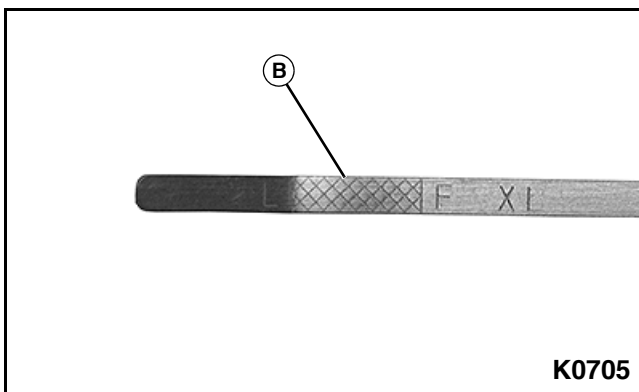

Figure 5-2
5. Pull out the dipstick again to check the oil level. The oil level (B) should be maintained between the F (full) and L (low) marks. See Figure 5-2.